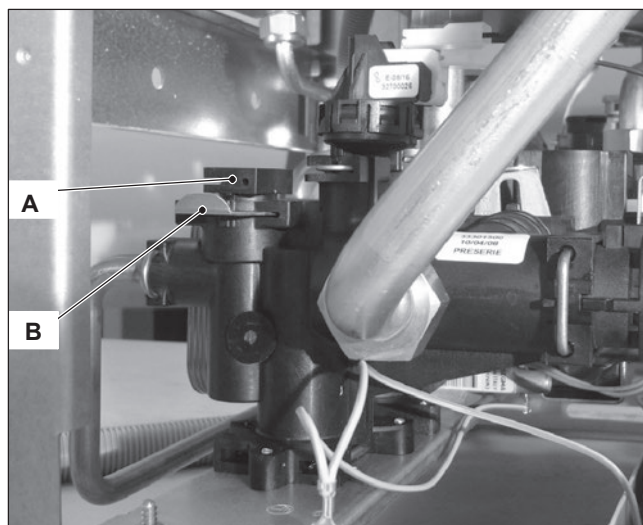

Figure 13.2
- 4 Reassemble the by-pass valve as illustrated in Figure 13.2 reversing the order of removal.